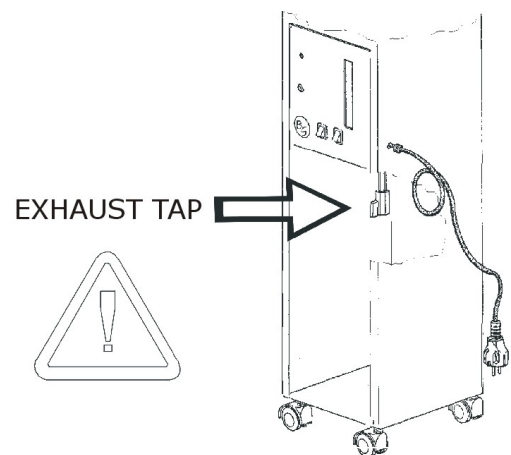

Fig. 7
N.B.: make sure the exhaust tap of the boiler is closed (fig. 7).
Unscrew the valve plug and turn the exhaust tap (fig. 7), wait for all the water to come out and then turn it off again. The tap might get clogged: in this case, use a wire with a diameter of 3-4 mm or similar and introduce it into the tube in order to unplug it.